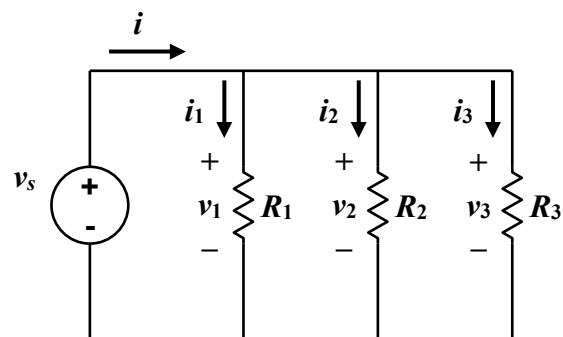

Figure 6.2
4. Create and analyze the three-resistor *parallel* circuit from **Experiment 2**, but without the R_o (which was used to control the current in case there was a short). The circuit is shown in **Figure 6.2**; use $v_s = 12.0\text{ V}$, $R_1 = 680\ \Omega$, $R_2 = 1.0\text{ k}\Omega$ and $R_3 = 3.0\text{ k}\Omega$.